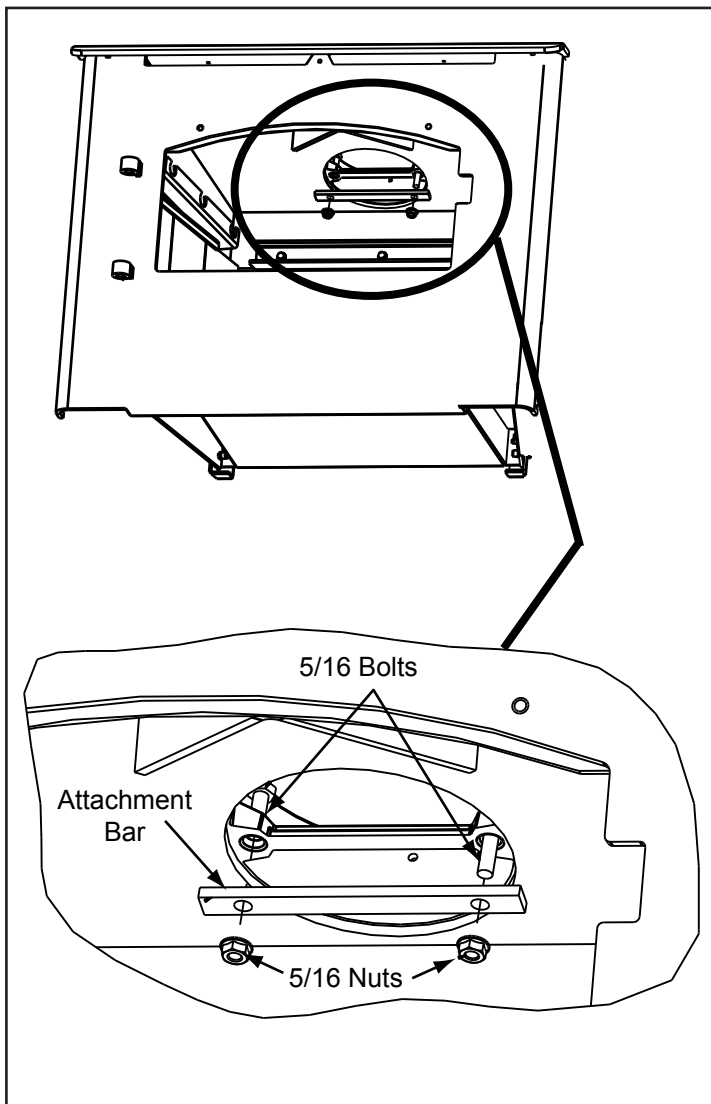

Figure 42.1
2. Reach up through the flue opening and grab the attachment bar and pull down inside flue opening. **Figure 42.1**.